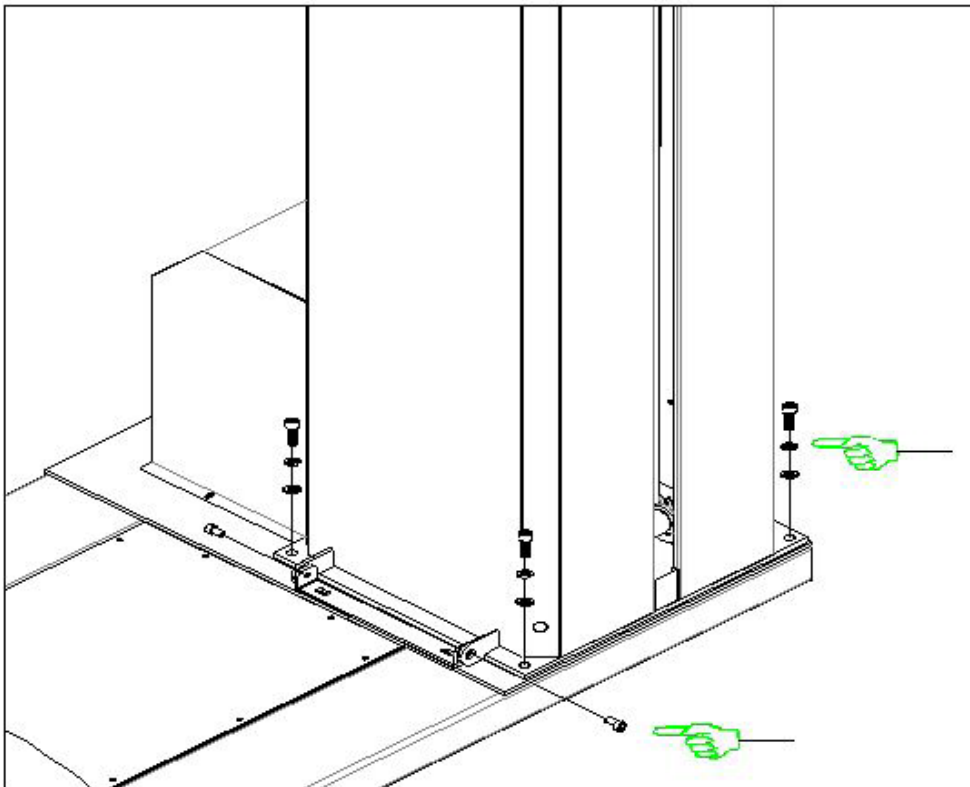

Figure 4
2. Tighten the screws between the tower and the turntable base (See Figure 4)